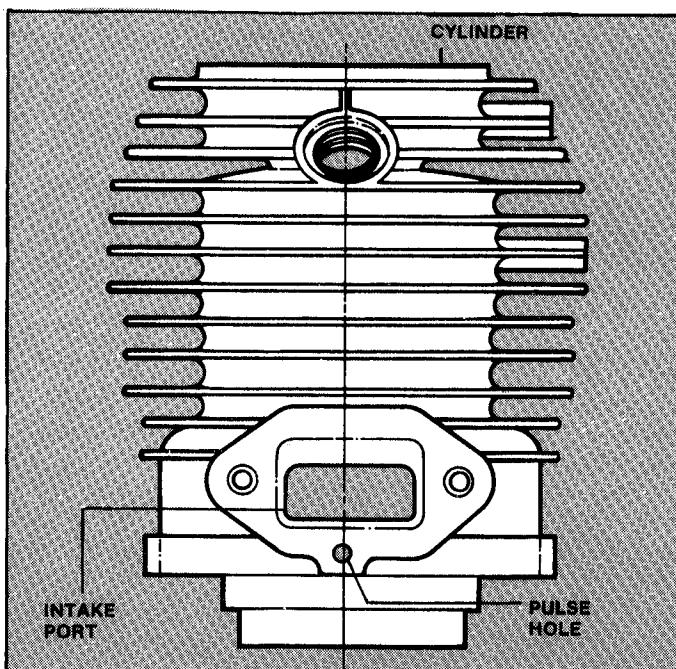

FIGURE 2.12
C. The cylinders carburetor mounting surface (intake) is provided with an air hole (pulse hole) which transmits the pressure variation in the crankcase to the diaphragm pump in the carburetor. This pulse hole is used **ONLY** for engines with a diaphragm valve type carburetor(D Type). It is **NOT** to be used with a float valve type carburetor. See Figure 2.12.